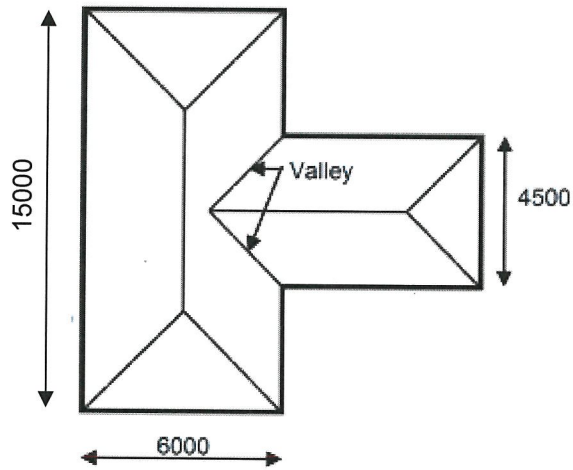

Figure Q2
Q2 A contractor is planning to measure the quantity of works needed for laying the roof sheet as shown in **Figure Q2** in **Appendix 1**. The tip of the roof above the ceiling is 1800mm.
Calculate a quantity take-off for the following types of work to be included on the Bill of Quantities (BQ) based on the information given in **Figure Q2**.